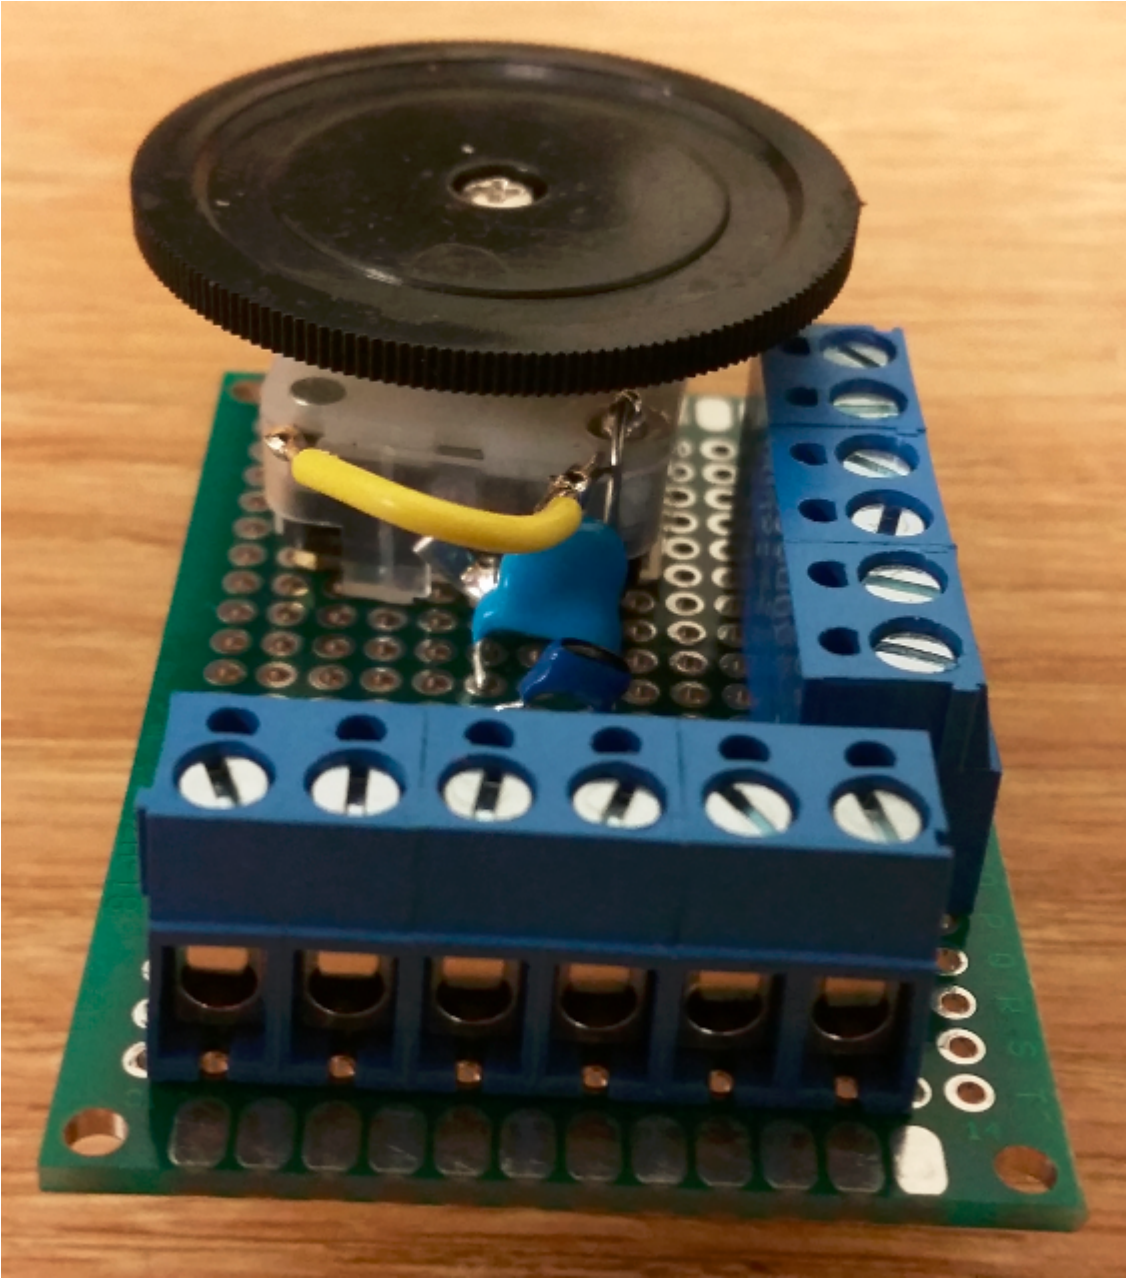

Figure 7: Installation detail of all components on protoboard
7. Install second terminal block assembly onto protoboard as shown in Fig 7: